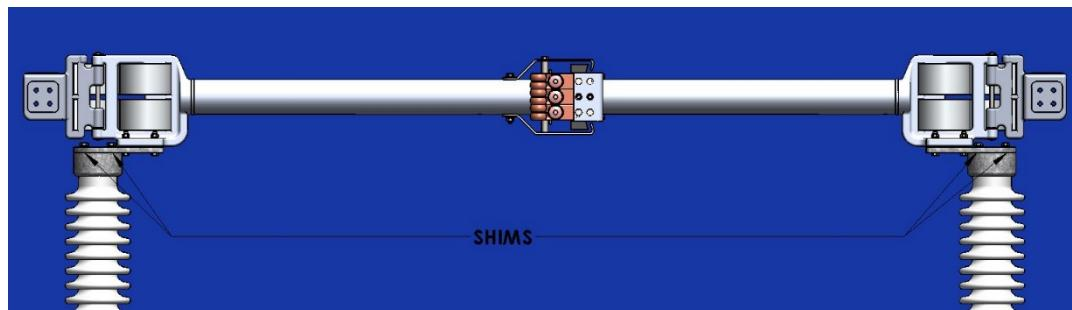

Figure 9: Blade Contact Adjustment
4. If contact adjustment is necessary, various sizes of stainless steel shims are provided for adjustment. Insert the shims between the insulator end cap and blade hinge until proper alignment is achieved. Torque the bolts to proper value (see **Table 2**). Refer to **Figure 9**.